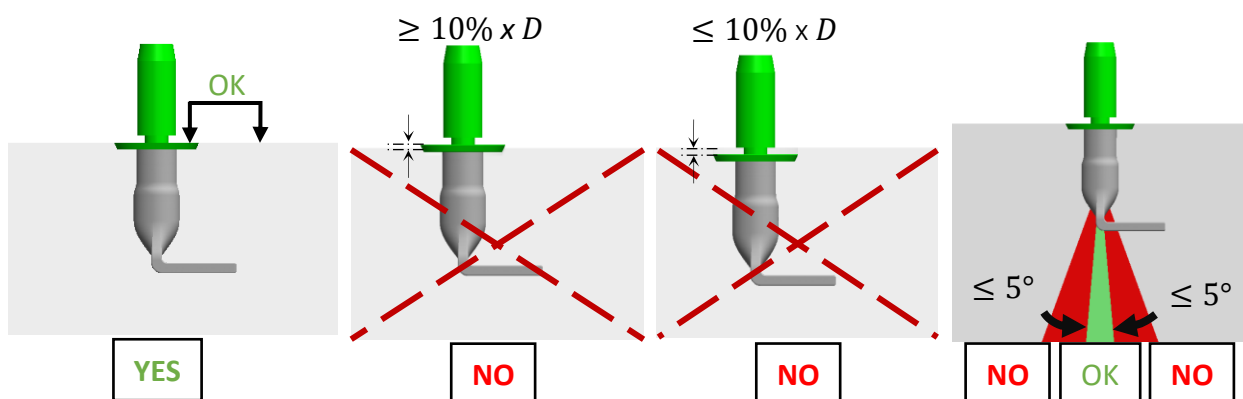

Figure 4 Correct placement of connection holding plate.
9.1.1 Correct placement of connection holding plate and insert for fastening during casting. Caution: If the connection holding plate is too small, it won't be compatible with the fixing equipment later. Conversely, if the recess block is too large, attaching the fixing equipment correctly will be impossible, increasing the risk of the fixing equipment slipping out. This could lead to premature fixing insert failure and the subsequent collapse of the construction element. Always ensure the connection holding plate size matches the identified appropriate size. Figure 4 illustrates the correct placement of the connection holding plate in wet concrete to ensure optimal anchorage strength for the insert for fastening.